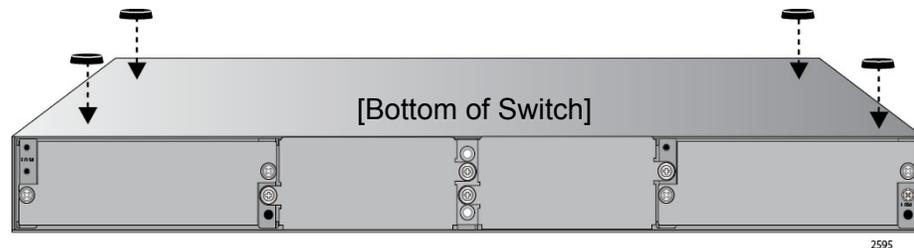

Figure 14. Attaching the Rubber Feet
4. Four rubber feet are provided in the switch shipping container, see Figure 11 on page 40. Attach the feet to the bottom of the switch in the corners as shown in Figure 14.